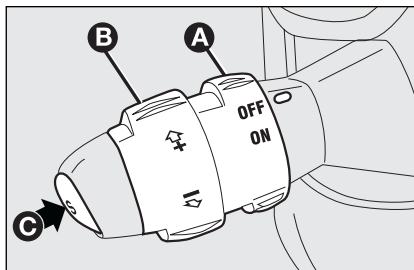

fig. 54
Turn knurled ring **A**-fig. 54 to **ON**.
- turn the knurled ring **A**-fig. 54 to **ON** and press the accelerator pedal to the required speed;
- press button **C-fig. 54**.
- turning the knurled ring **B-fig. 54** temporarily to (+).
- keeping the knurled ring **B-fig. 54** to (–) until reaching the new speed which will be memorised automatically.
Turn the knurled ring **A-fig. 54** to **OFF** or the ignition key to **STOP**. The device is automatically deactivated also in one of the following cases:
*In the event of device malfunction or failure, turn the knurled ring A-fig. 54 to OFF and contact a Fiat Dealership after checking the protection fuse integrity.*